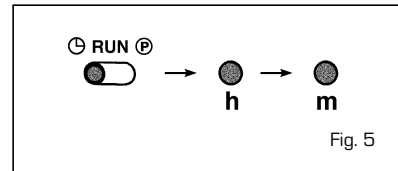

Fig. 5
**- Setting the time (fig. 5)**